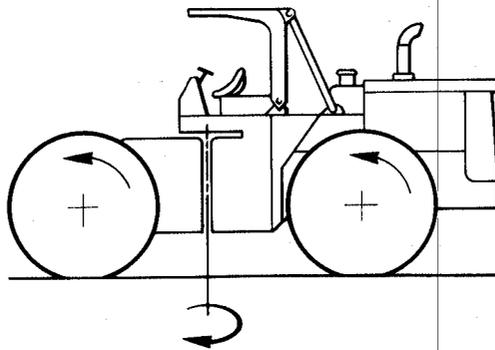

Figure 5 — Wheel tractor — Four wheel, articulated steer, four wheel drive, operator rear
5.1.5.2 Operator rear (see figure 5).